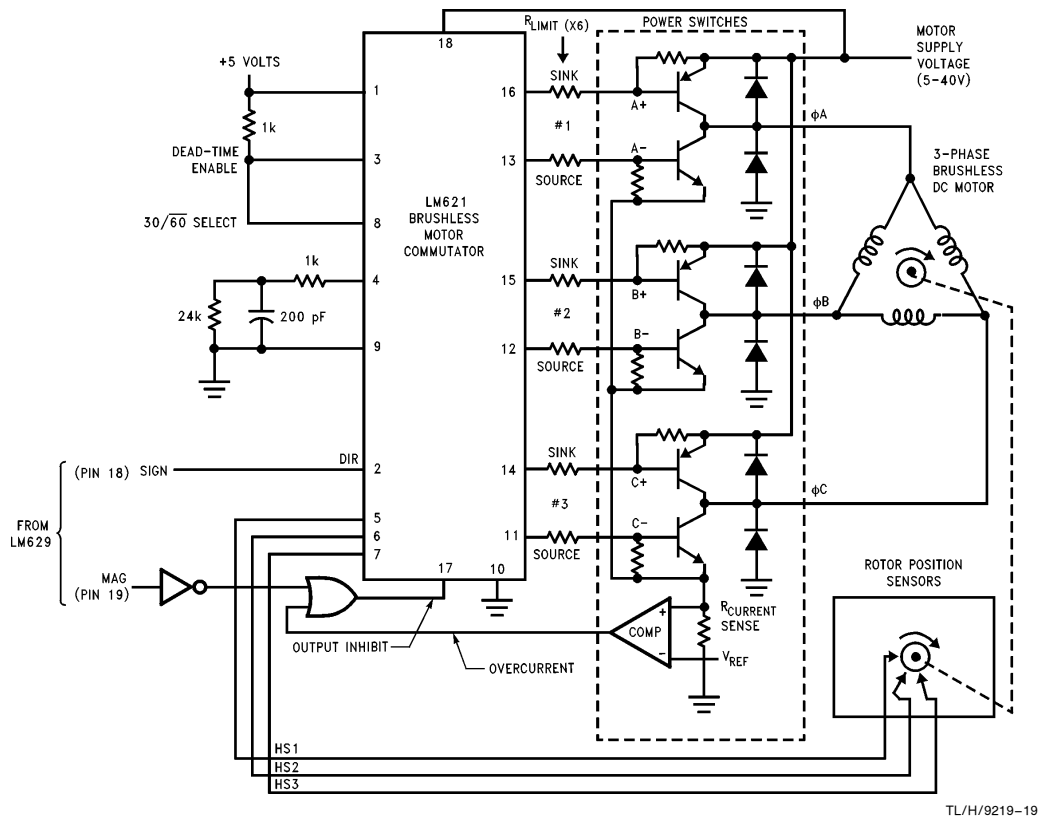

FIGURE 17. PWM Drive for Brushless Motors
*Figure 16* shows an LM18298 dual full-bridge driver interfaced to the LM629 PWM outputs to provide a switch-mode power amplifier for driving small brush/commutator motors. *Figure 17* shows an LM621 brushless motor commutator interfaced to the LM629 PWM outputs and a discrete device switch-mode power amplifier for driving brushless DC motors.